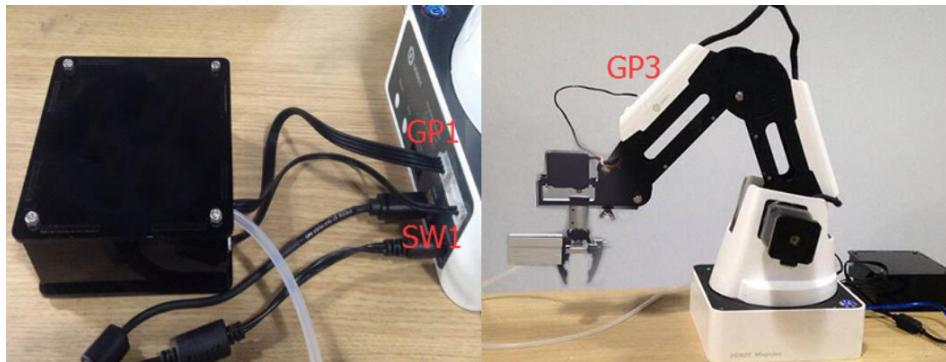

Figure 5.11 The effect of the gripper kit installation
**Step 3** Connect the gripper kit and an air pump to the Dobot Magician in the same way as the suction cup kit is installed. For details, see 5.2.1 Installing a Suction Cup Kit. Figure 5.11 shows the effect of the gripper kit installation.